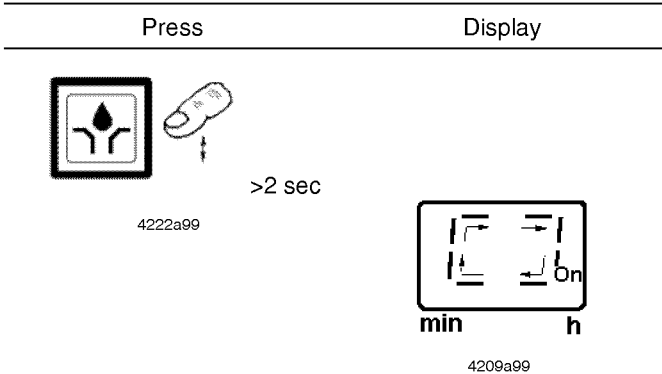

Fig. 13-2 Triggering an additional lubrication
- Press key (fig. 13-2) > 2 sec. to trigger an additional lubrication.
If the reservoir has been completely emptied, the pump may require priming and a longer runtime to reach the full lubricant output. Therefore, if the occasion arises trigger additional lubrications manually (fig. 13-2).